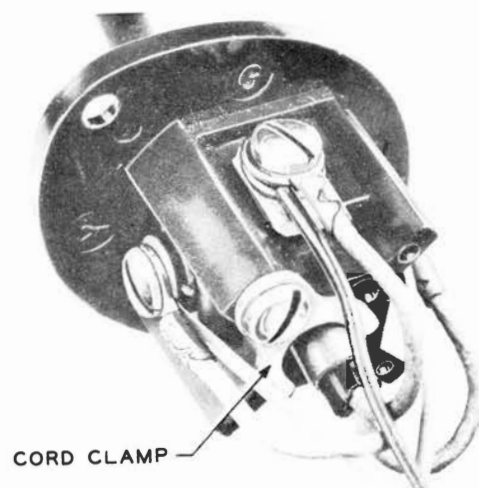

Fig. 26 — Cording of 47-type Connecting Block
8.04 When the 47-type connecting block is used, the cord conductors should be terminated as shown in Fig. 26.